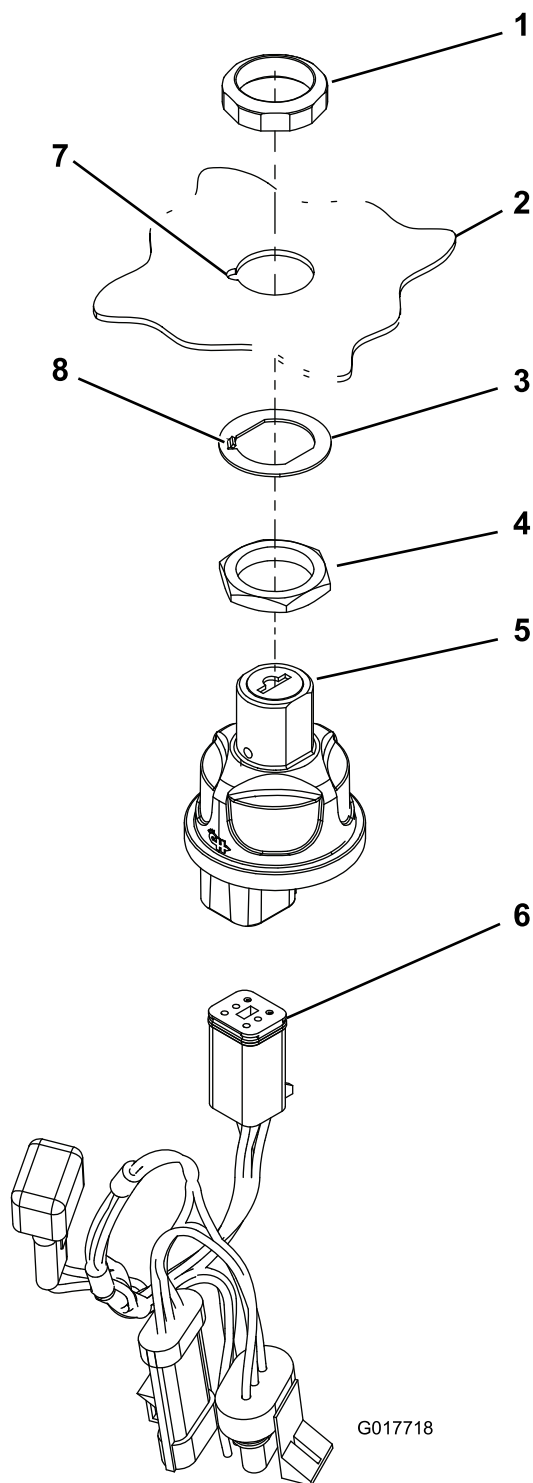

Figure 2
8. Install the new ignition switch assembly as shown in Figure 2.
Note: Ensure that you align the tab on the washer with the slot in the control panel (Figure 2).
10. Connect the new ignition switch wiring harness connector to the new ignition switch (Figure 2).
9. Connect the new ignition switch wiring harness (Figure 2) to the connector on the existing wiring harness that was plugged into the old ignition switch.